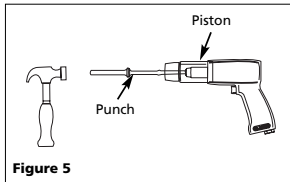

Figure 5
2. Attempt to free jammed piston using punch (See Figure 5).